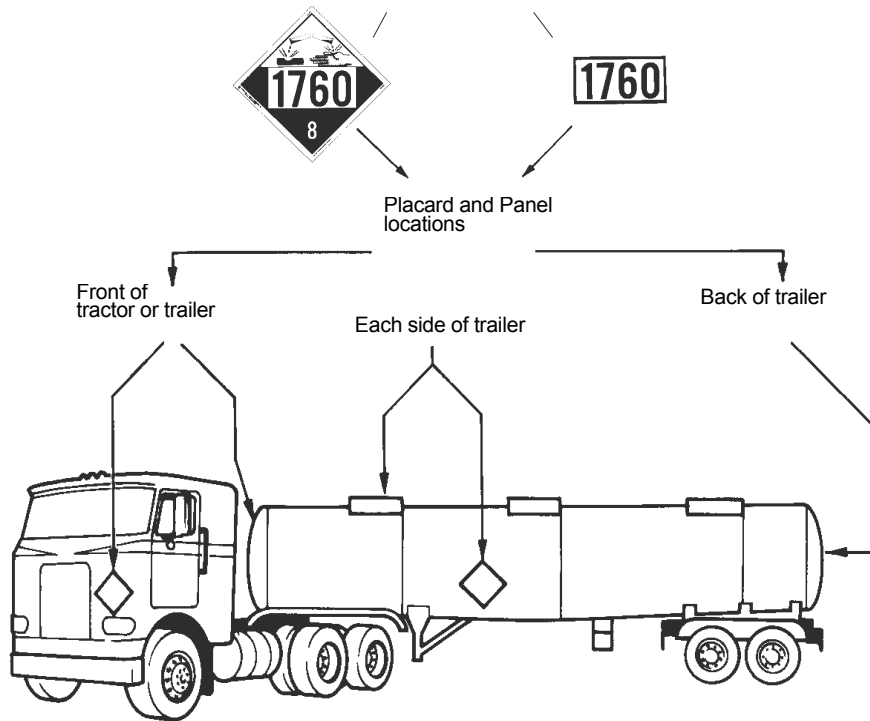

Figure 9-3
**Placards** are used to warn others of hazardous materials. Placards are signs put on the outside of a vehicle which identify the hazard class of the cargo. A placarded vehicle must have at least four identical placards. They are put on the front, rear, and both sides of the vehicle (see Figure 9-3). Placards must be readable from all four directions. They are 10 3/4 inches square, square-on-point, in a diamond shape. Cargo tanks and other bulk packaging display the identification number of their contents on placards or orange panels or white square-on-point displays that are the same size as placards.